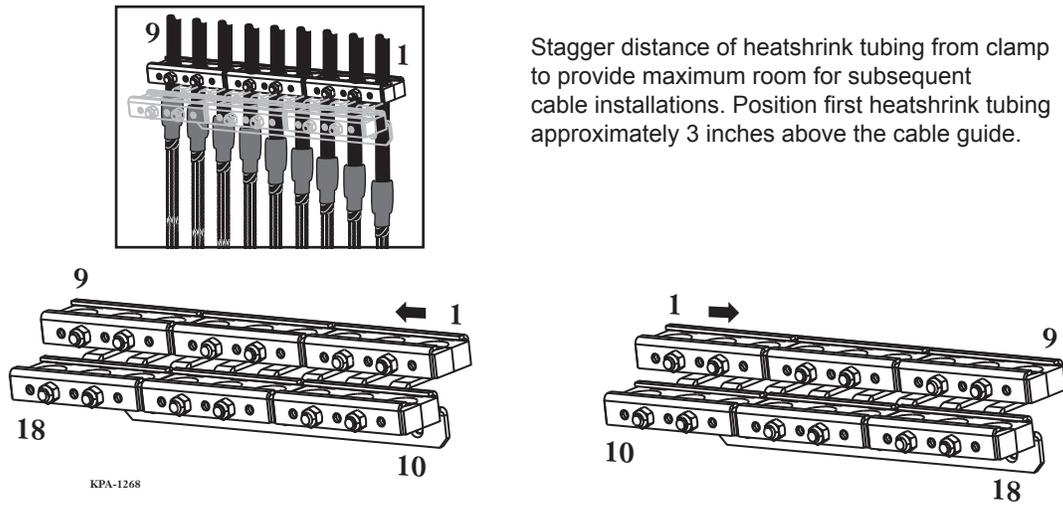

Figure 7
- Step 2:** Select appropriate cable strain-relief slot by referring to cable installation sequence in Figure 7.